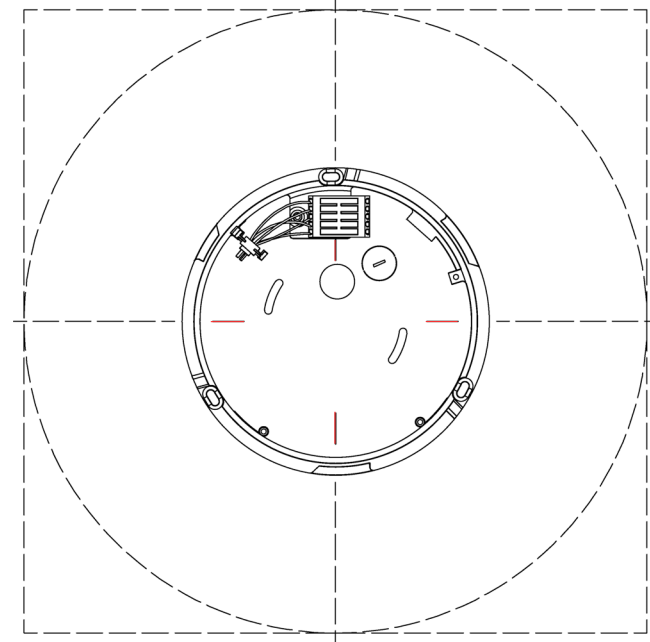

Figure 1
2. Attach the surface mount collar to the ceiling using three (3) countersunk screws. **IMPORTANT:** J-box mounting for grounding purposes only, do not mount to J-box alone. Mounting hardware supplied by others. Mounting surface and hardware must be rated to support the weight of the fixture. (See Table 1) **NOTE:** To align multiple fixtures see Figure 1. Two installers are necessary for installation steps four (4) and five (5).